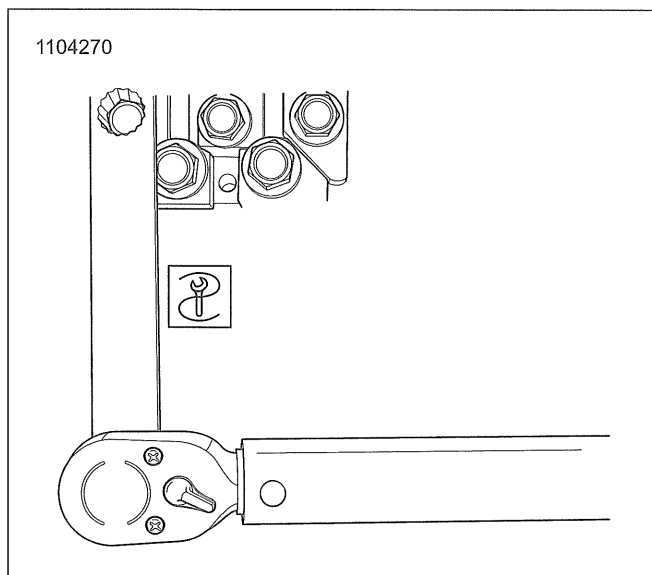

Figure 3-56. HD-52351 In Use
- c. See Figure 3-56. Tighten banjo bolts.